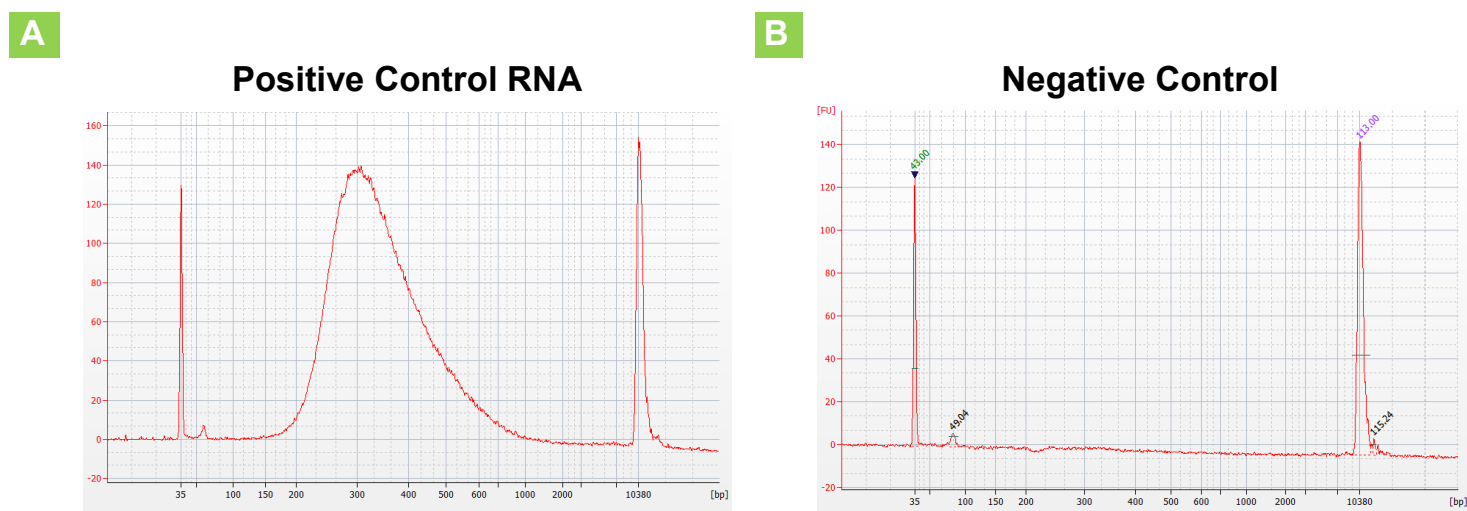

Figure 3. Electropherogram example results from Agilent 2100 Bioanalyzer.
3. Compare the results for your samples and controls (if performed) to determine whether the sample is suitable for further processing. Successful cDNA synthesis and amplification should yield no product in the negative control (Figure 3, Panel B), and a distinct peak spanning 150–1,000 bp, peaked at \sim 300 bp for the positive control RNA sample (Figure 3, Panel A), yielding $>$ 7.5 nM RNA-seq library (depending on the input and number of cycles).